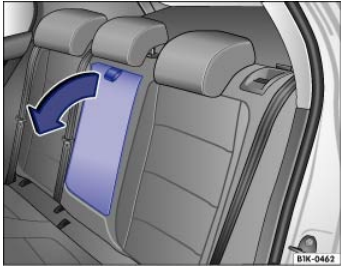

Fig. 78 Folding down the rear center armrest (arrow).
There may be a fold-down armrest in the backrest of the center rear seat ⇒ *Fig. 78*.
- To *fold down*, pull the loop in the direction of the arrow ⇒ *Fig. 78*.